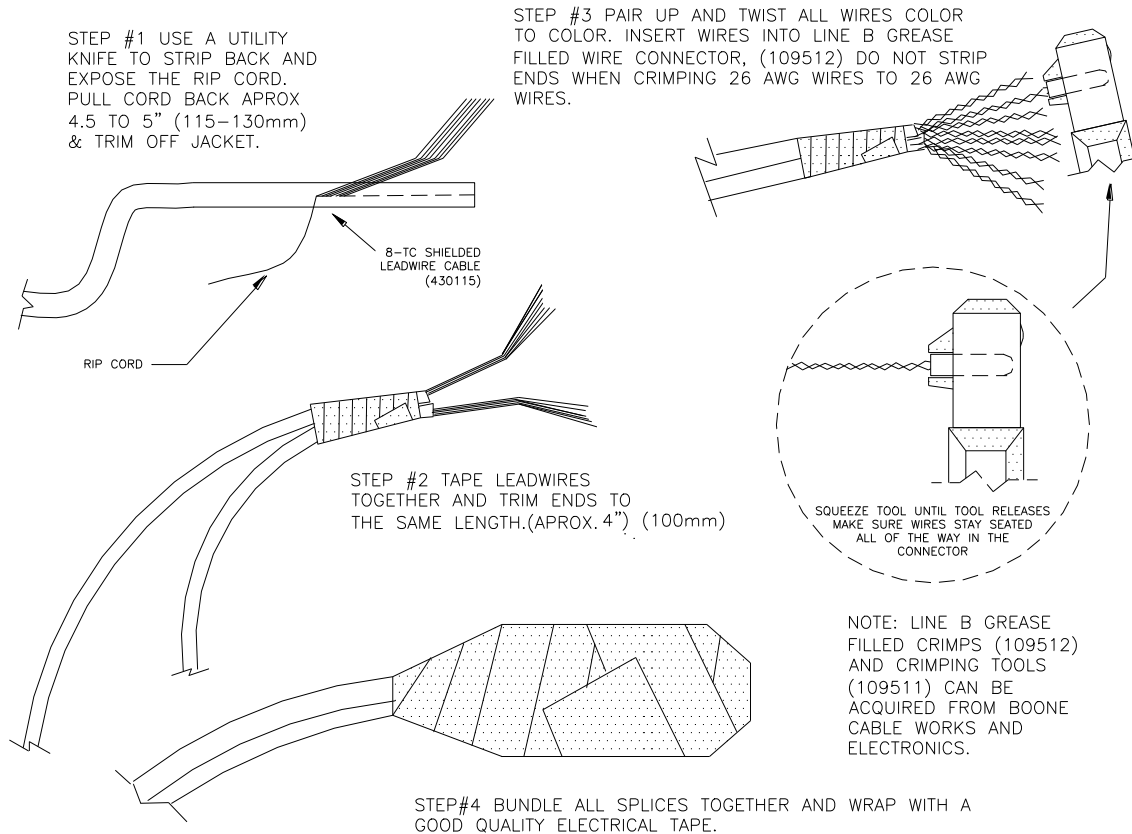

Figure 12. Cable Splicing with Crimps
**4.5.2. Crimps:** All wire-to-wire splices should be made with Line B grease filled wire connectors. These connectors and the proper crimping tool for installation are available from BOONE CABLE WORKS AND ELECTRONICS and can be ordered with the system. These crimps offer the highest degree of reliability, insulation, and moisture protection of any we have found. They also have the added benefit of not requiring the stripping of the insulation from the individual conductors when connecting two 26 AWG wires. The crimps are insulated outside and are grease filled inside. The grease retards corrosion and resists water, thus making a good conductive splice that is well insulated. After the splice bundle is completed, several wraps of good quality electrical tape will provide abrasion resistance and make for a neat looking splice. Please refer to the detailed splicing section, and figure 12 for specific steps related to making wire connections.